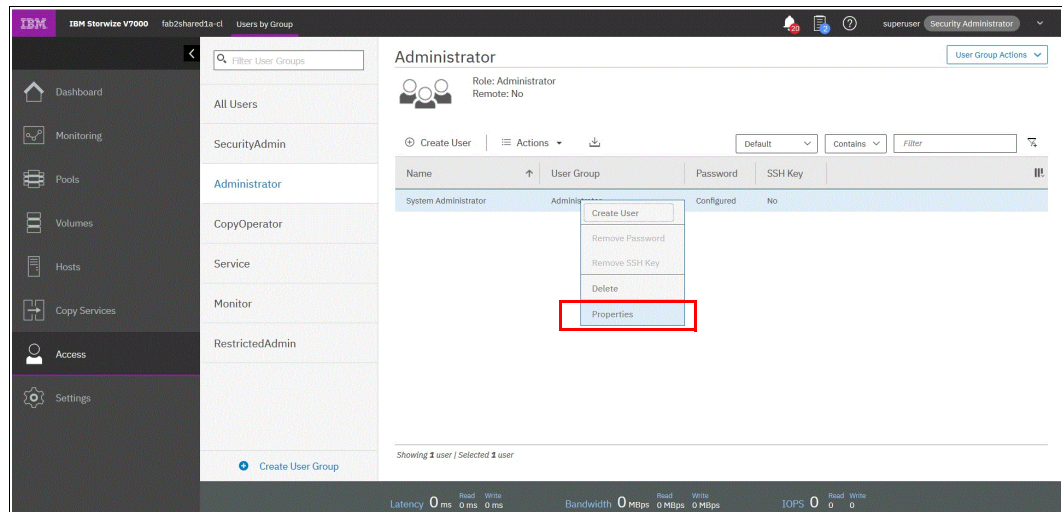
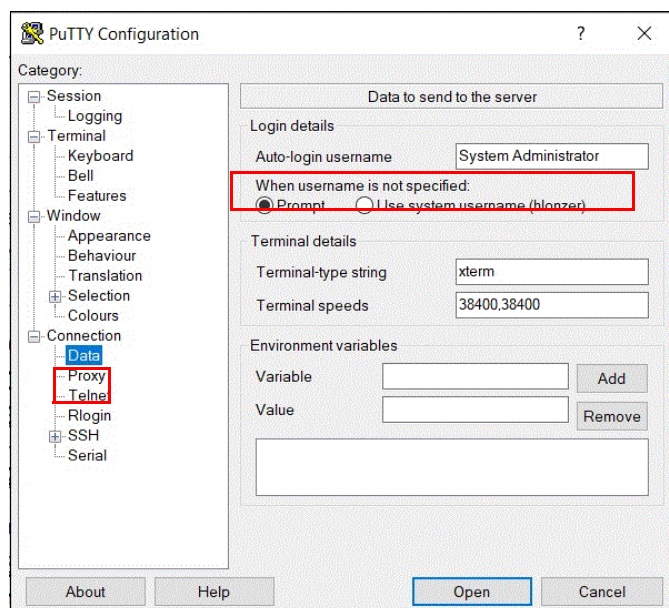

Figure B-5 User properties
Figure B-9 PuTTY Auto-login username
2. Right-click the username for which you want to upload the key and click **Properties** (see Figure B-5).
2. In the upper right, select **SSH** as the connection type. In the “Close window on exit” section, select **Only on clean exit** (see Figure B-9 on page 1000), which ensures that if any connection errors occur that they are displayed on the user’s window.
3. In the Category window, on the left side of the PuTTY Configuration window, select **Connection** → **Data**, as shown on Figure B-9. In the “Auto-login username” field, enter the IBM Spectrum Virtualize user ID that was used when uploading the public key. The admin account was used in the example that is shown in Figure B-5 on page 998.